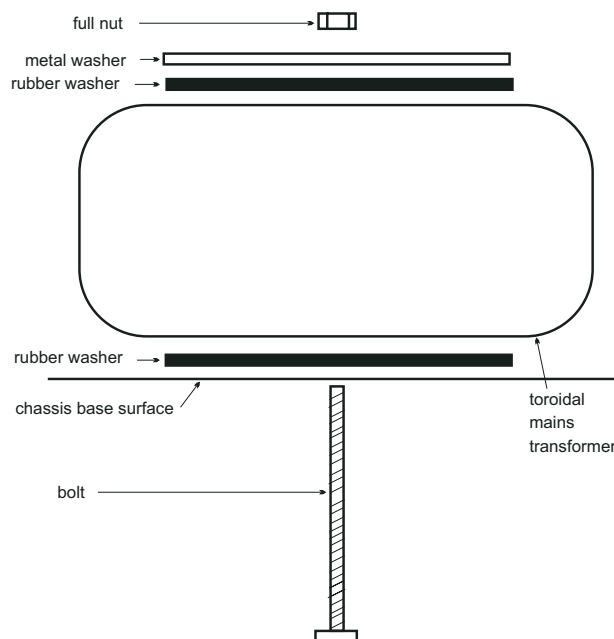

Fig. 1 Toroid Mounting Kit
Before you start building it is a good idea to check the parts supplied against your parts list. Please be aware that “picking errors” do happen even if very infrequently - make sure that you check the value and rating of each component carefully. A schematic of resistor colour coding is given at the end of this booklet. Use the check column on the parts list to cross off your components. To help you through the build process you will find throughout the manual diagrams and photographs labelled **Fig. 1**, **Fig. 2** and so on. These will bear correlation to the text and to the highlighted figure in the margins.
**Figs. 1 / 2** Fit the power transformer using the mounting kit supplied. Insert the bolt from the underside of the case, then fit a pad to the inside of the case followed by the toroid, another pad and, finally, the top plate and nut. Align the toroid so that the secondary leads (Orange / Orange / Yellow and Red / Black) lie closest to the PCB position. Tighten the nut to clamp the toroid firmly in position.